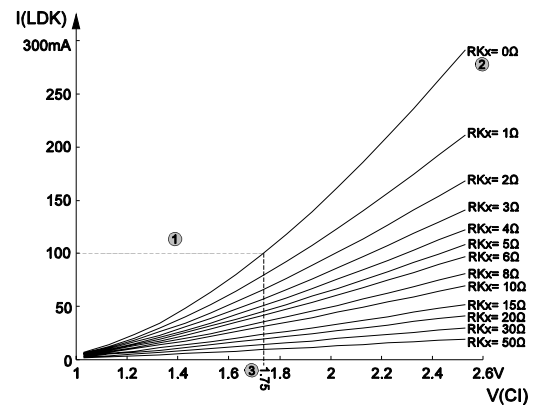
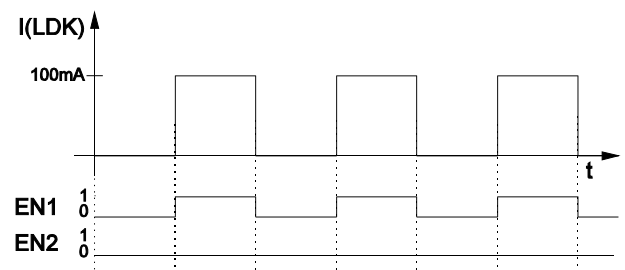

Fig. 1: Determining $V(CI)$ for Example 1 - pulse current of 100mA
Fig. 2: Signal patterns for Example 1 - pulse current of 100mA
3. As shown in Figure 1 (cf. data sheet, Figures 2..4), the required voltage $V(CI)$ for $RK = 0\Omega$ is read off at $I(LDK) = 100\text{mA}$ as $V(CI) = 1.75\text{V}$
Resistors RKx are not usually required. However for laser diodes operating on very low currents RKx might be necessary due to the lower voltage limit of iC-WK at pin CI. When dimensioning the resistors Figures 2..4 from the data sheet should be referred to as shown in Example 1. Furthermore, the use of resistors RKx can be useful when implementing protection against overcurrent (see page 8, 'Overcurrent shutdown/Laser current limitation').